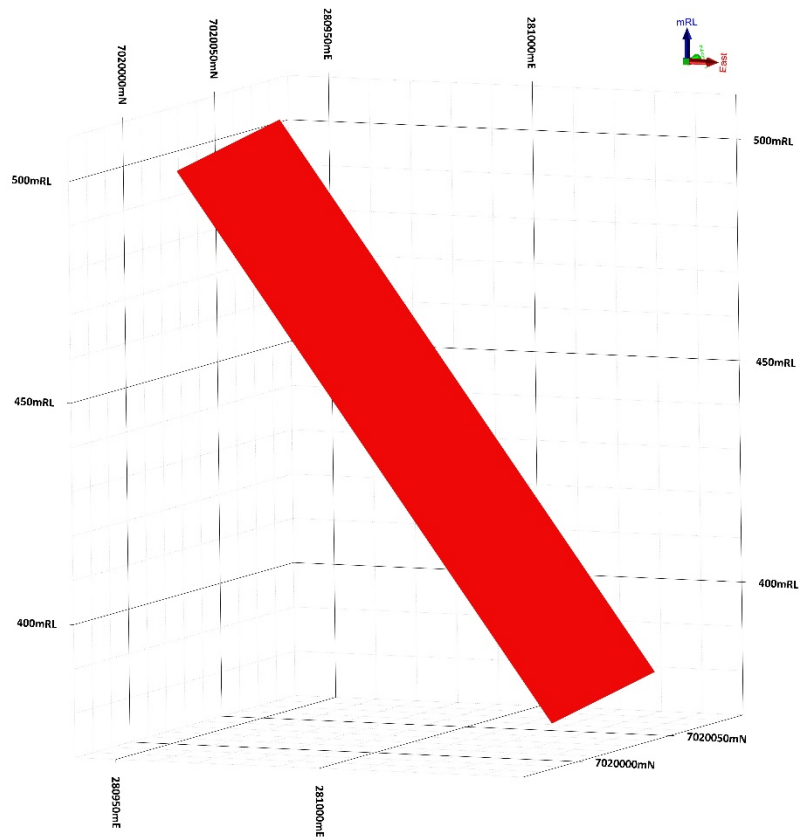

Figure 2. Anomaly 1 Modelled EM Plate
Anomaly 1 is coincident with a magnetic high and directly along strike to the south of the historic Harris Find gold mine, where the Company has previously identified VMS potential and intercepted high-grade gold⁴. The modelled plate for Anomaly 1 (See **Figure 2**) is 95m x 150m, 307 siemens (S) and models at approximately 25m below surface (upper limits) with a depth extension of 150m, dipping moderately towards the east. Anomaly 1 has a well-defined geophysical profile; is adjacent to a fault; and within favourable stratigraphy.